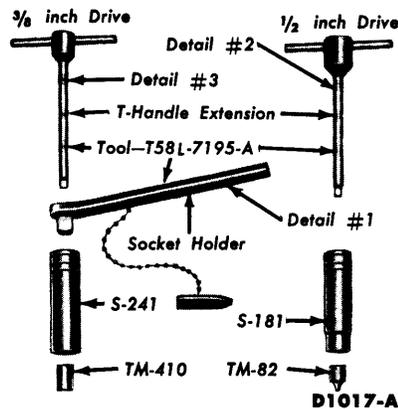

FIG. 4—Front and Rear Band Adjusting Tools
4. Pull the adjusting screw end of the actuating lever away from the servo body, and insert the adjusting tool gauge block (Fig. 4) between the servo piston stem and the adjusting screw.
3. Place the socket holder on the $\frac{3}{4}$ -inch socket (Fig. 4.) Insert the T-handle extension through the handle and socket. Place the $\frac{5}{16}$ -inch 8-point socket on the extension. Place a torque wrench on the T-handle extension.